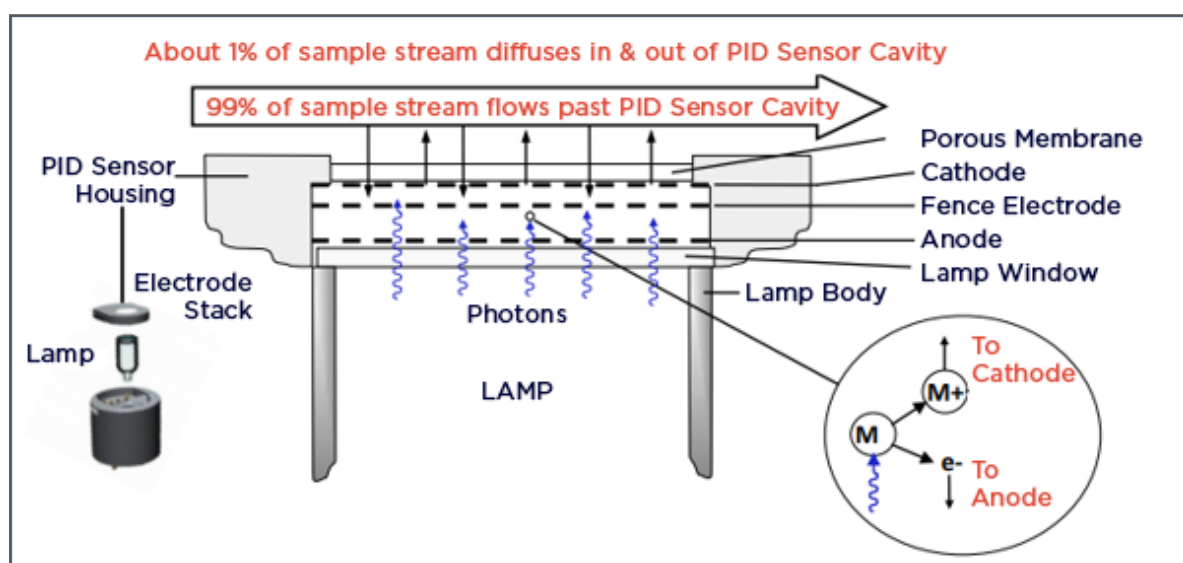

Figure 1: Ion Science Ltd PID sensor design
Figure 1 is a schematic of a typical PID sensor system. A UV lamp generates high-energy photons, which pass through the lamp window and a mesh electrode into the sensor chamber. Sample gas is pumped over the sensor and about 1% of it diffuses through a porous membrane filter into the other side of the sensor chamber. The inset on the 'lower right' of figure 1 shows what happens on a molecular level. When a photon with enough energy strikes a molecule M, an electron ( $e^-$ ) is ejected.  $M^+$  ion travels to the cathode and the electron travels to the anode, resulting in a current proportional to the gas concentration. The electrical current is amplified and displayed as a ppm (or part per billion (ppb)) concentration. Not all molecules can be ionized, thus, the major components of clean air, i.e., nitrogen, oxygen, carbon dioxide, argon, etc., do not cause a response, but most VOCs do give a response.
The presence of humidity in the sample gas can unfortunately disrupt the measurement leading to inaccurate results. Heated inlets to achieve a stable temperature (typically 50°C) are power hungry and a challenge to achieve in, say a refinery, where stringent intrinsic safety (IS) requirements have to be met. However, looking at Figure 1, the presence of an additional fence electrode can overcome the problem and practically eliminate the effect of humidity. It does this by behaving as a conductive break when there is excess current flow caused by the presence of humidity.